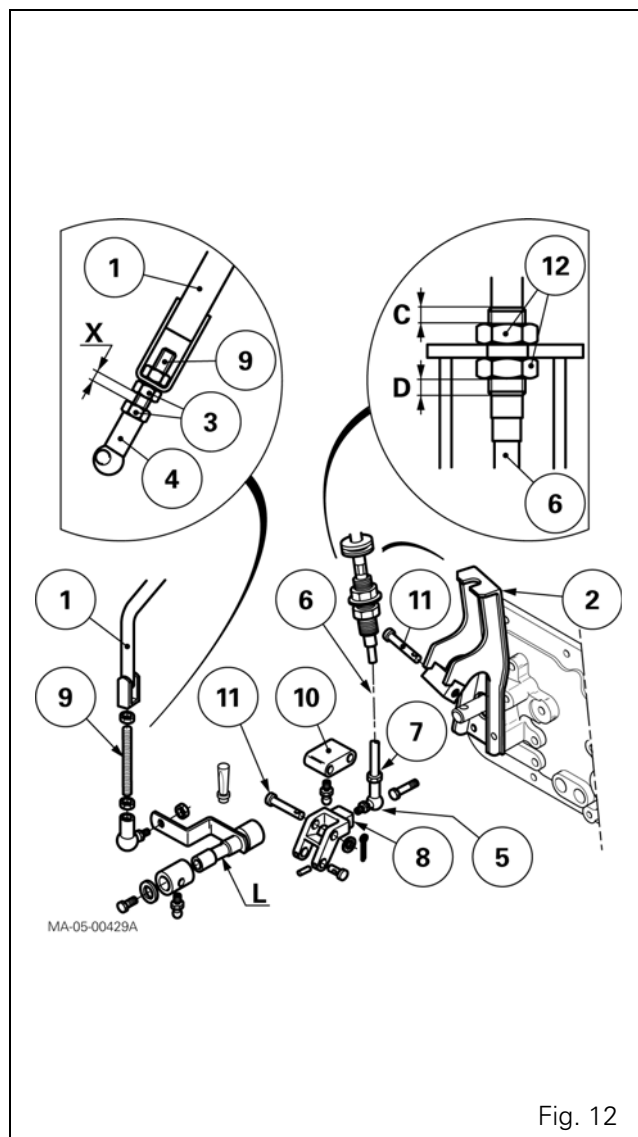

Fig. 12
Preparation (Fig. 12)
Assembly (Fig. 12)
71. Tighten and lock the other end of the ball joint (5) onto the cam (8).
72. On the previously fitted support (2) and lever "L", position the cam (8) and its extension block (10). Fit the pins (11), and lock them in place with new pins.
73. Fit the ball joint (4) on the lever L. Fit the washer and tighten the locknut.
Adjusting the rod (1) (Fig. 12)
74. Turn the threaded rod (9) and ball joint (4) to obtain a dimension X of $17 \pm 1 \text{ mm}$ between the two nuts (3) when they are tightened.
Adjusting the cable (6) (Fig. 12)
75. Adjust the sheath end to balance (as far as possible) dimensions "C" and "D". Tighten the nuts (12) without altering the adjustment.
The lever is positioned incorrectly. Readjust the rod (1) (Fig. 12) on the selector cover plate side in accordance with the following instructions:
- If the problem concerns the 1st or 3rd gear (Fig. 13), reduce dimension X (Fig. 12).
- If the problem concerns the 2nd or 4th gear (Fig. 13), increase dimension X (Fig. 12).
- If the problem concerns lateral movement of the lever between the 1-2 and 3-4 gear paths (Neutral position) (Fig. 14), adjust the cable sheath end (6) (dimensions C and D) (Fig. 12). Tighten the nuts (12).